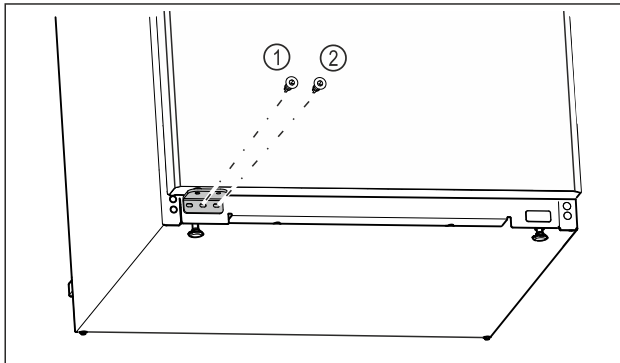

Fig. 26
- Tighten the middle screw of the swap bearing block Fig. 26 (1) with a Torx 20 screwdriver.
- Tighten the inner screw of the swap bearing block Fig. 26 (2) with a Torx 20 screwdriver.